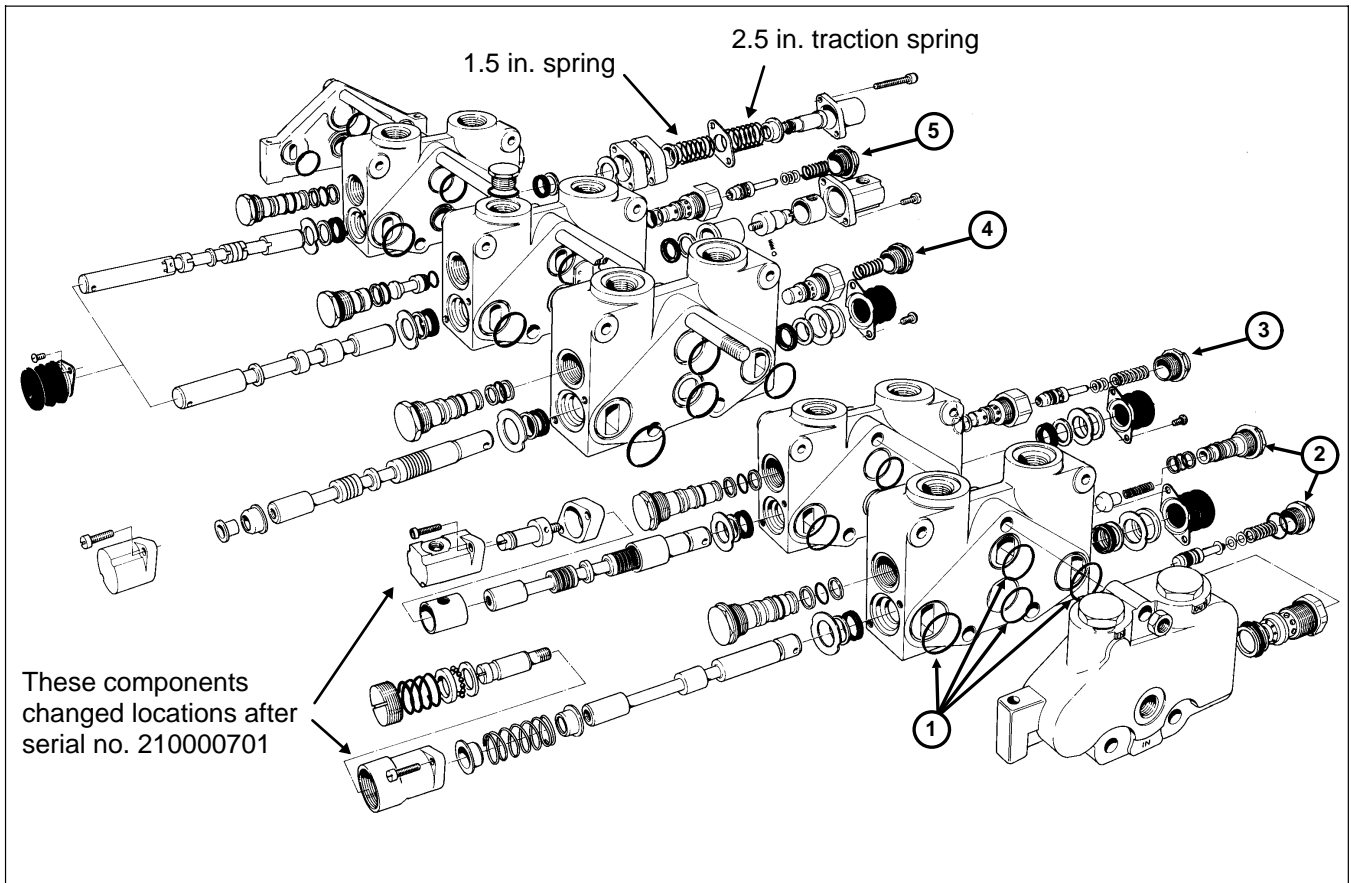

Figure 27
Control Valve Internal Seal Replacement (Fig. 27)
2. Put the valve bank in a vertical position in a bench vise, and remove the locknuts from the three (3) bolts securing the sections together (Fig. 27).